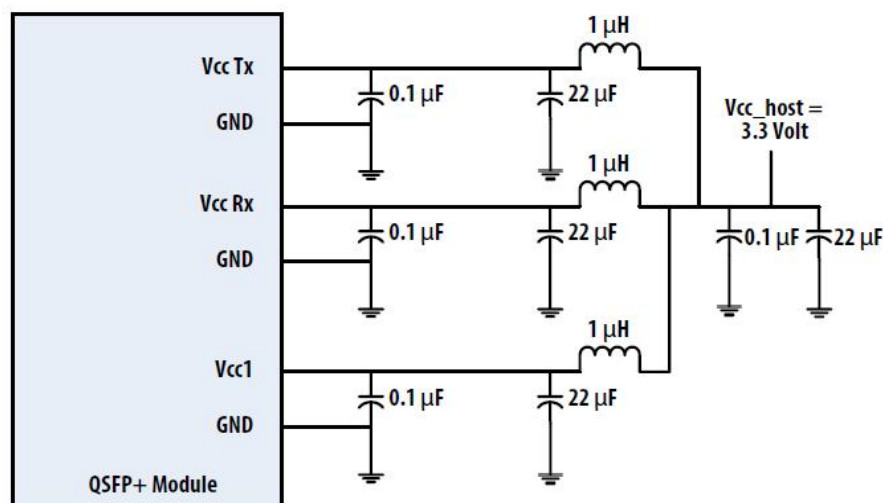

Figure 3. Recommended Power Supply Filter
2. VccRx, VccI and VccTx are the receiving and transmission power suppliers and shall be applied concurrently. Recommended host board power supply filtering is shown in Figure 3 below. Vcc Rx, VccI and Vcc Tx may be internally connected within the QSFP+ transceiver module in any combination. The connector pins are each rated for a maximum current of 500mA.